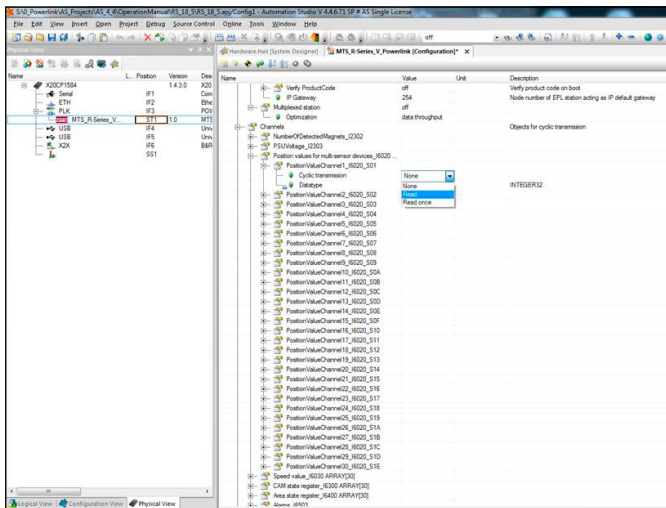

Fig. 54: Activating the mapping of the parameters of the group "Channels"
- Channels: Measurement data of the sensor, that can be transferred cyclically. To activate cyclic transmission of a specific data item, click on the data item column called "Value" and change the entry from "None" to "Read" (Fig. 54).